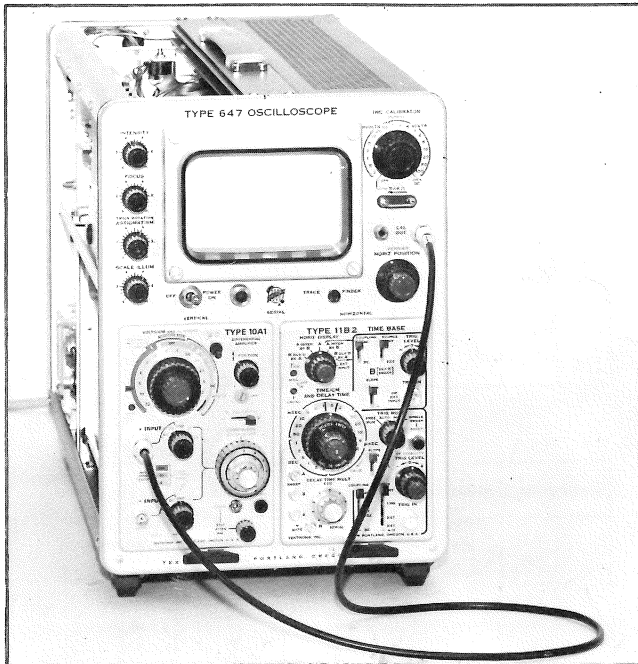

Fig. 5-23. Setup at completion of step 45d when an oscilloscope calibrator is used as the signal source.
d. Apply a 5mv peak-to-peak calibrator signal to the +INPUT connector on the Type 10A1 (see Fig. 5-23).